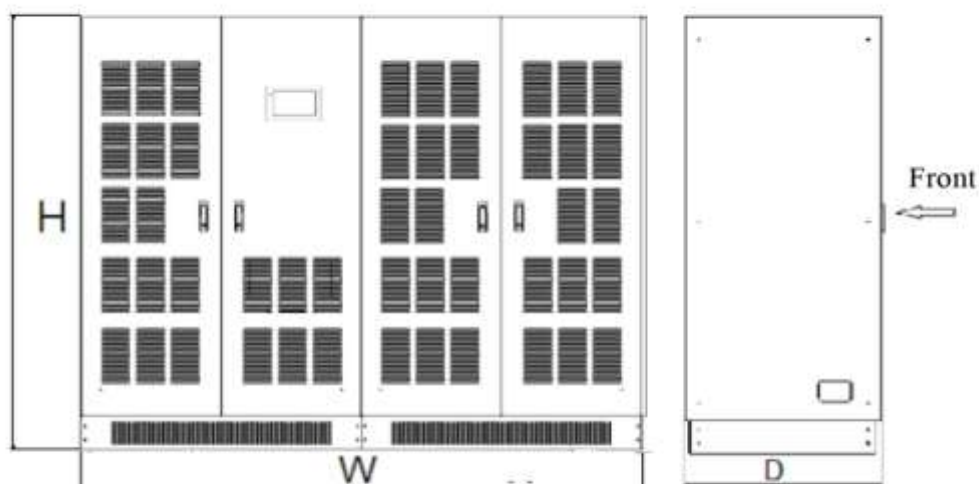

Fig. 3-4: External view of This series (400-500kVA) complete machine
- This series (10-300kVA) UPS is integrated in a cabinet, and the UPS (400-500kVA) is composed of a rectifier cabinet and an inverter cabinet, as shown in Fig. 3-4. The rectifier cabinet and the inverter cabinet are of the same size. Each cabinet must be handled separately and then connected in parallel together.